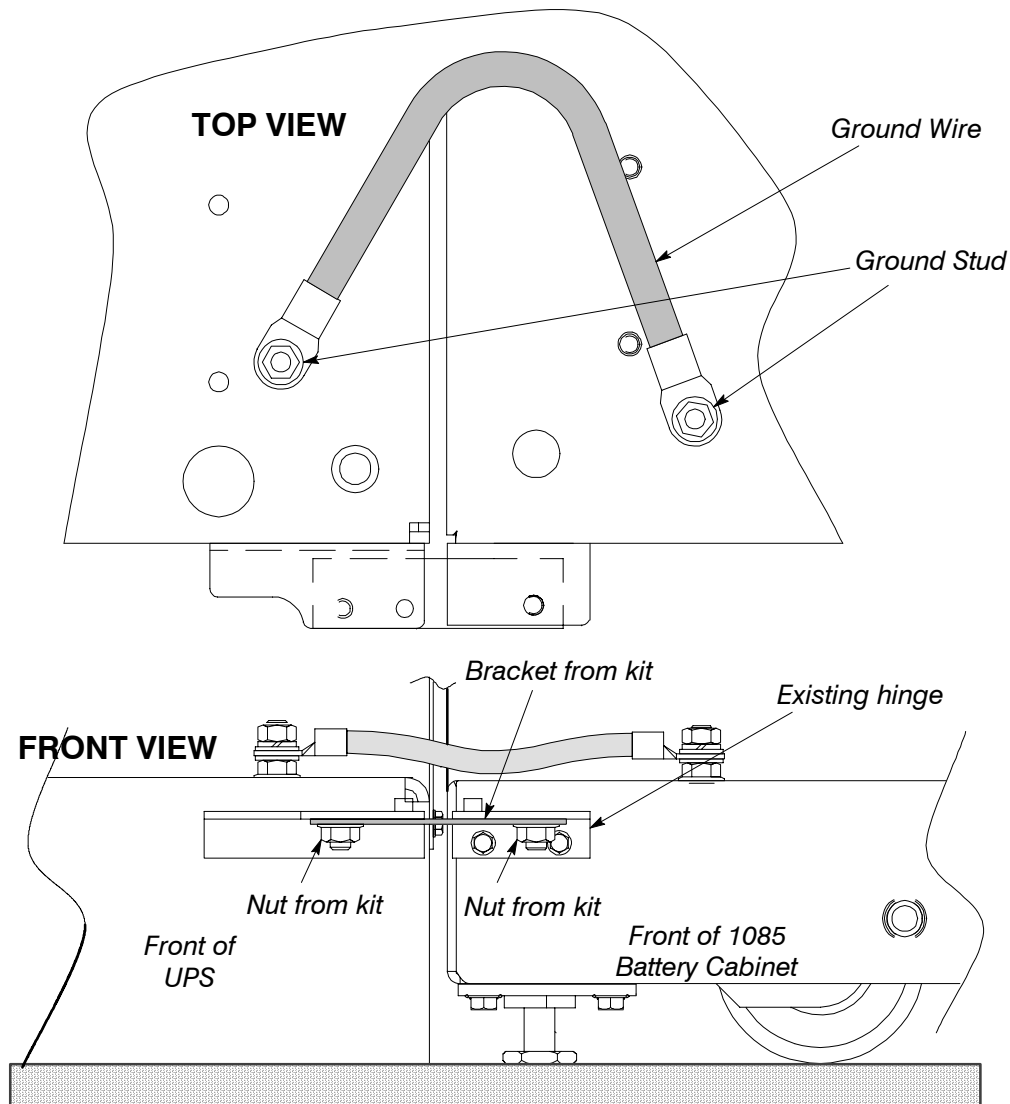

Figure 8. Attaching UPS Base to Series 1085 Base
10. Locate the large flat bracket from the field kit. Place one end of the bracket over the stud on the bottom side of the UPS cabinet lower right-hand hinge, and the other end over the stud on the bottom side of the lower right-hand hinge on the Series 1085 Battery Cabinet (see Figure 8).